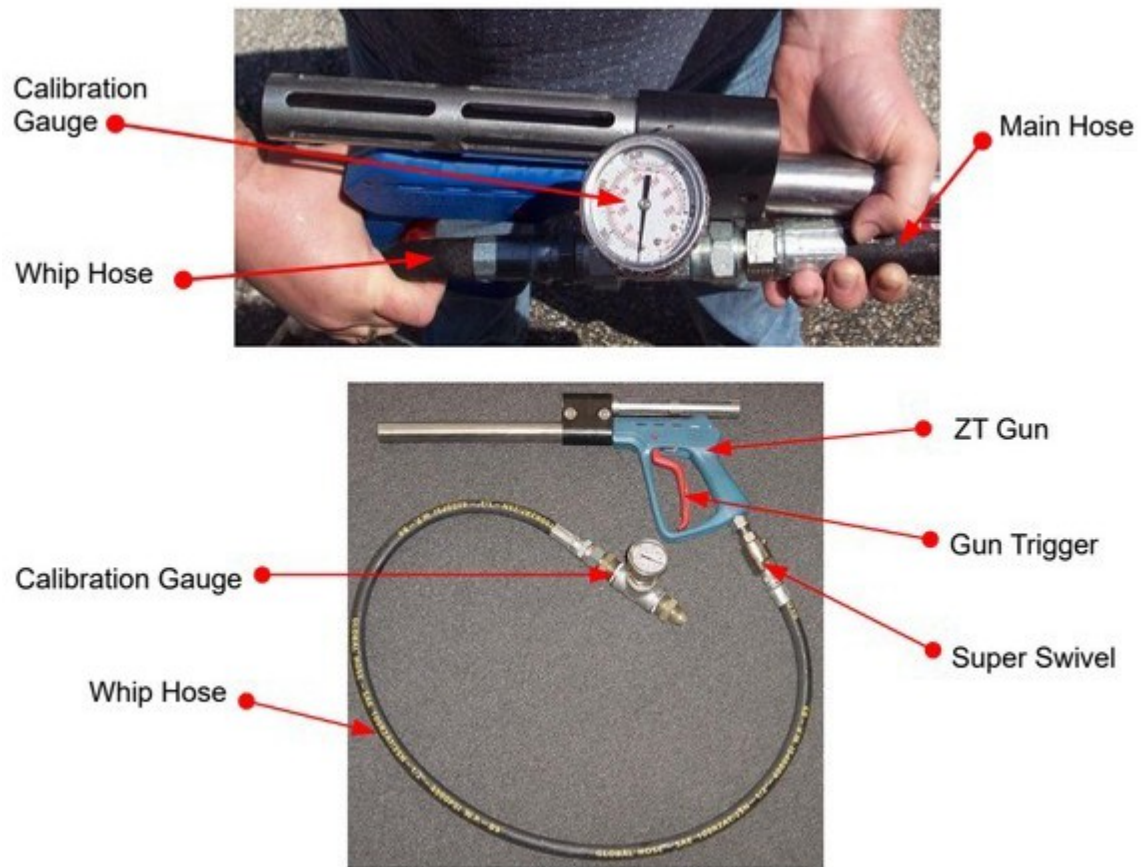

Figure 5.2 – Z/T-Gun Pressure Calibration
7. Hold the CaviBlaster tool tight and observe the gauge (**Figure 5.2**).